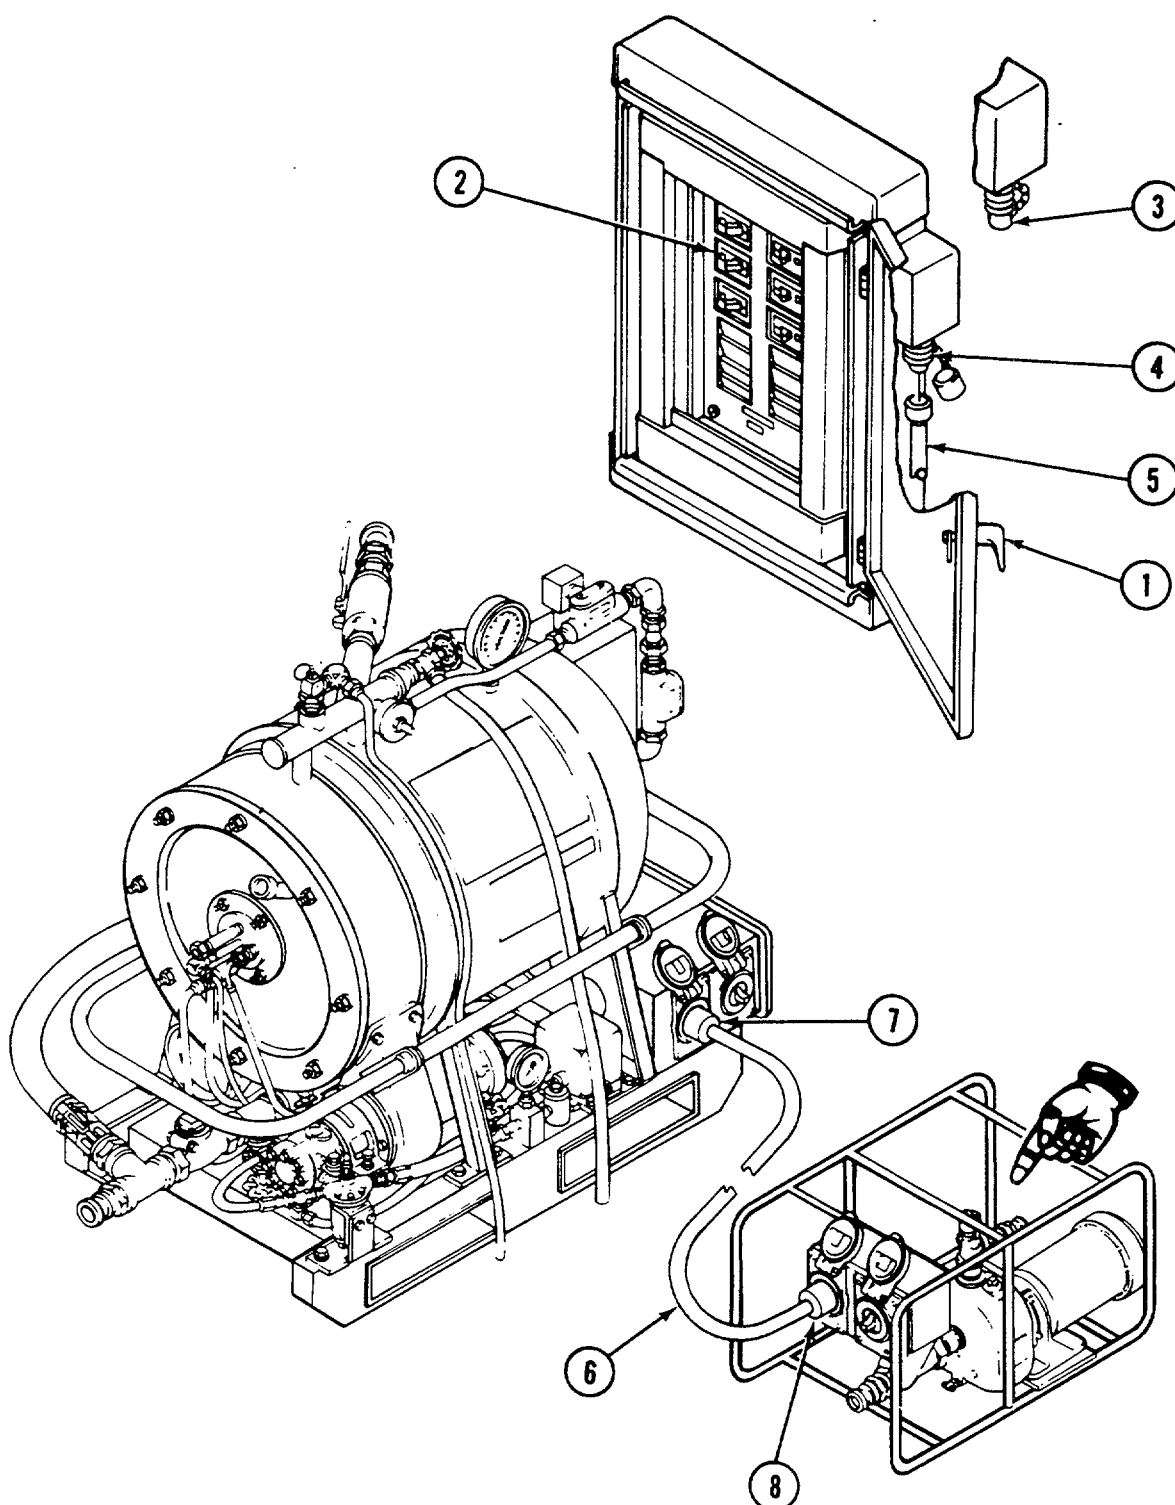

FIGURE 2-12. Electrical panel cable connection.
- (1) Open electrical panel door (1, FIG. 2-12) and turn off all circuit breakers (2).
- (2) Remove dust cap (3) on main power connection (4).
- (3) Connect main power cable (5) to main power connection (4). Connect other end of power cable to power source. Refer to TM 5-6115-585-12 for electrical connections on generator.
Ensure that power cable (6, FIG. 2-12) does not touch or cross water hoses, exhaust ducts, or fuel lines. Melting/damage can occur causing leaking fuel and water or electrical hazards. Death by electrocution, fire, or explosion could result.